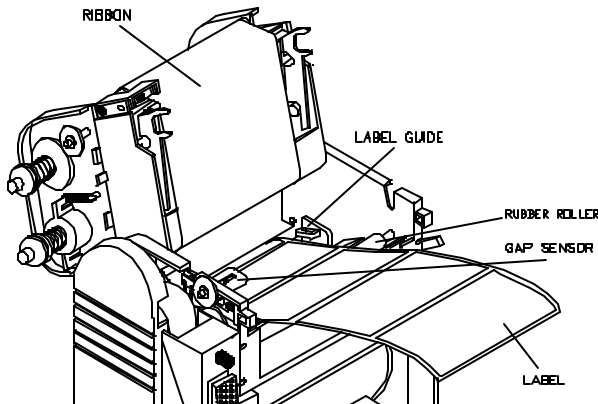

Fig. 2.3.2
5. Turn over the printhead assembly. Pass the front edge of the label through the gap sensor and overstride the Rubber roller (see figure 2.3.2).
6. Turn over the printhead assembly. Pass the front edge of the label through the gap sensor and overstride the Rubber roller (see figure 2.3.2).